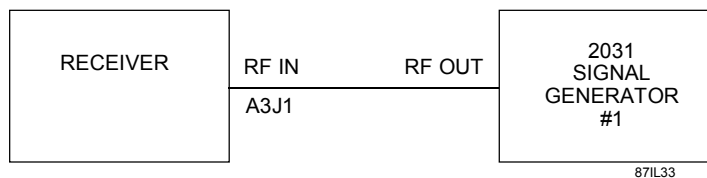

Figure 7-2. Front Panel Test Equipment Connections
1. Connect the WJ-8711A Receiver and test equipment as illustrated in *Figure 7-2*.